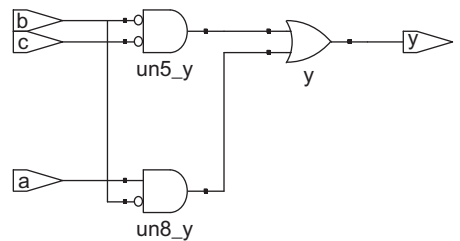
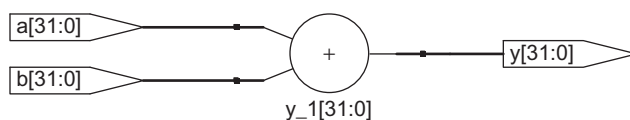

FIGURE A.2 Synthesized silly_function circuit
FIGURE A.3 Synthesized adder
A.1.2.2 Synthesis. Logic synthesis transforms HDL code into a *netlist* describing the hardware; e.g., logic gates and the wires connecting them. The logic synthesizer may perform optimizations to reduce the amount of hardware required. The netlist may be a text file, or it may be displayed as a schematic to help visualize the circuit. Figure A.2 shows the results of synthesizing the `sillyfunction` module with Synplify Pro. Notice how the three 3-input AND gates are optimized down to a pair of 2-input ANDs. Similarly, Figure A.3 shows a schematic for the adder module. Each subsequent code example in this appendix is followed by the schematic that it implies.